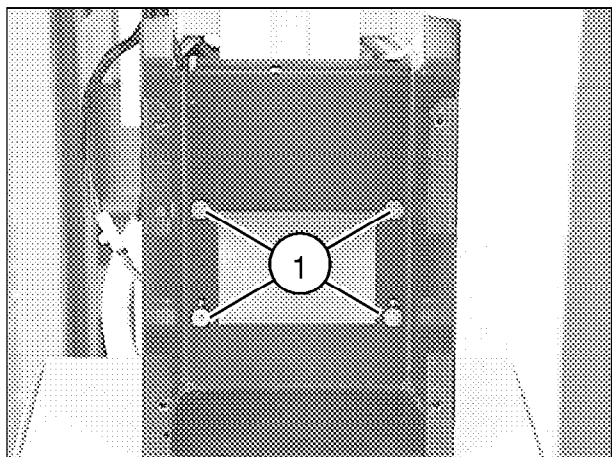

Fig. 14
- Remove the four screws (1/Fig.14) at the inside of the collimator cover.